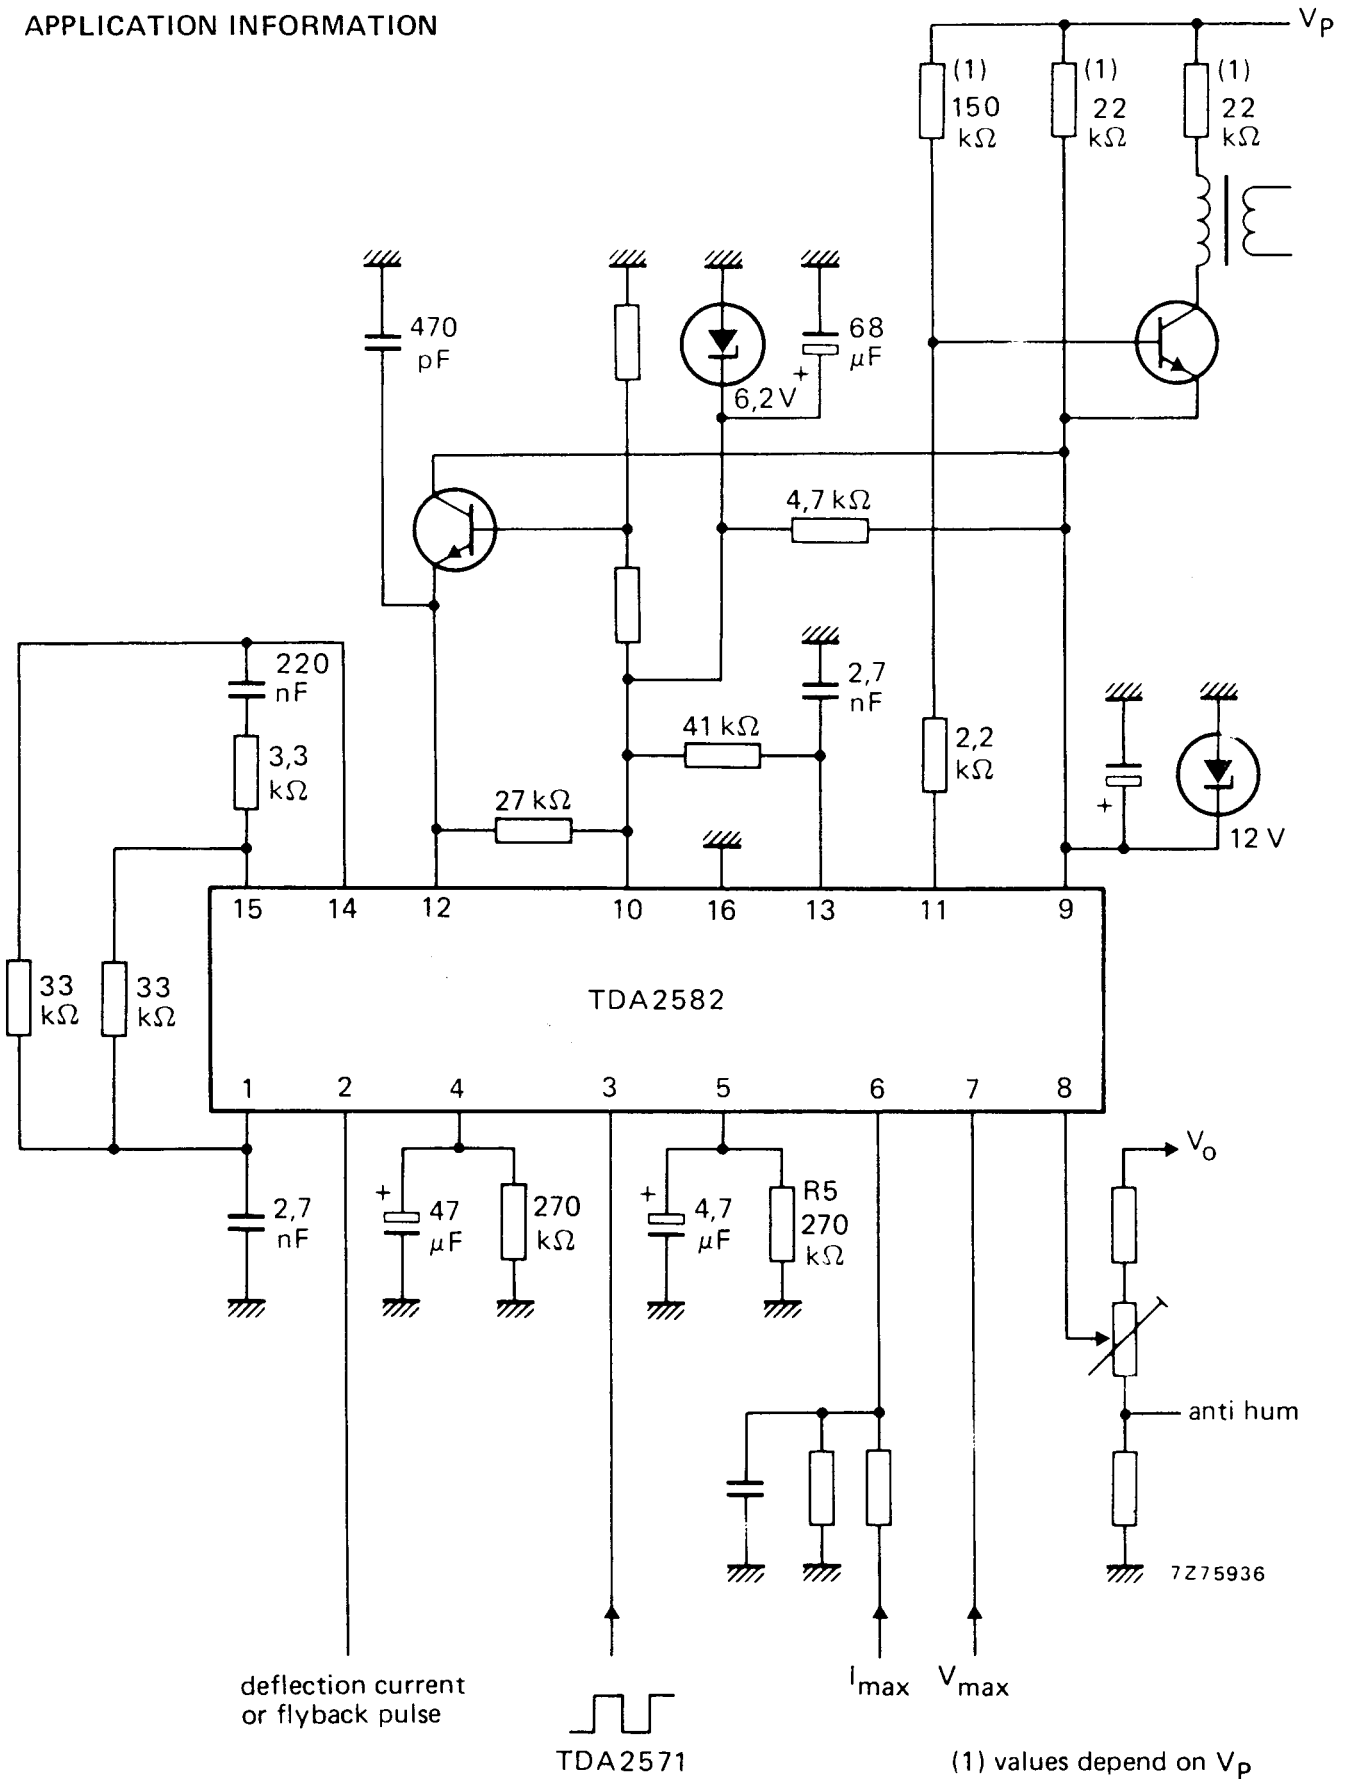

Fig. 4 Circuit diagram.
**CHARACTERISTICS**V9-16 = 12 V; V10-16 = 6,1 V; Tamb = 25 °C; measured in Fig. 4
With a resistor of  $2 \times 33 \text{ k}\Omega$  and a capacitor of  $2,7 \text{ nF}$  the control steepness is  $0,55 \text{ V}/\mu\text{s}$  (Fig. 4).